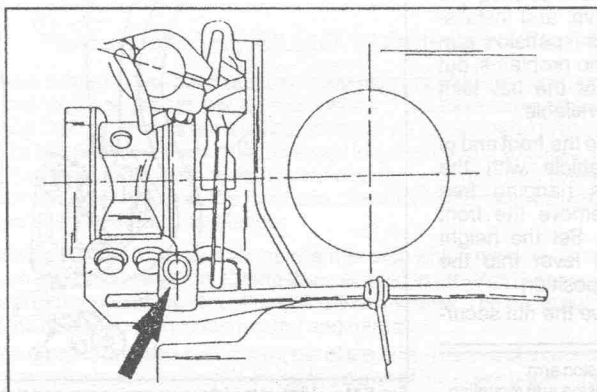

Fig. 6.9. — View of a fitted front height corrector. The arrow shows the clamp for the adjustment of the automatic height control.
- If the height is outside the values given, rotate the collar of the height corrector on the anti-roll bar, shown by the arrow in Fig. 6.9. One is situated near the round globe, the other one near the exhaust tube. Retighten the clamps to 1.4 kgm (11 ft.lb.).